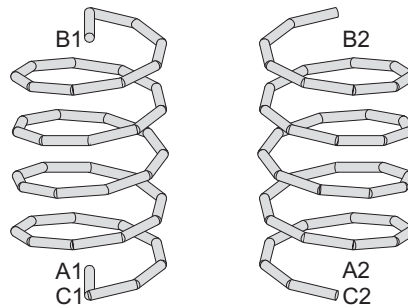

Figure 9-15: HE card examples — the coil on the right is coiled in the left handed direction. These examples are found in `demo_HE1.pre`
- Connect helix . . . :* Create connections from the two ends of the coil to the axis (at points S1 and S2). See also left side of figure 9-15. If the connections are not generated, point S3 is a connection point. See also the right side of figure 9-15.
The two coils shown in figure 9-15 are created using the HE card.